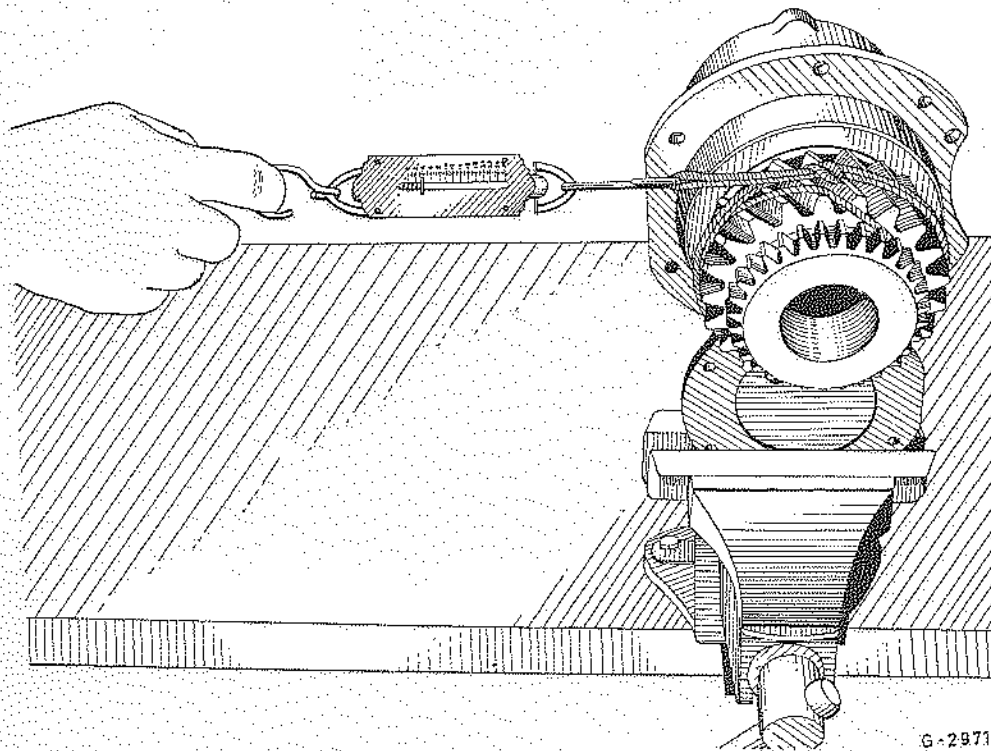

Fig. 2 - Checking input shaft adjustment
1. Press the bearing cups into housing (52) hard up to the shoulders of the housing.
2. Press the inner bearing cone onto the shaft (47).
3. Assemble the bearing spacer (45) and suitable shim stack (46) over the shaft, and press on the outer bearing cone (21).
4. Assemble the spacer (51) and companion flange (43), washer (16) and nut (18) and tighten this nut to the recommended torque loading of 200-250 lbs. ft.
5. Hold the housing (52) in a vice and check the preload on the bearings as shown in fig. 2 on page 4. (This check must be carried out with seals omitted).